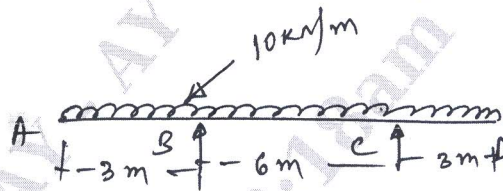

Fig Q5(a)
- 5 a. A simply supported beam with overhanging on its either supports is subjected to UDL of 10kN/m as shown in Fig Q5(a). Draw the SF and BM diagrams.